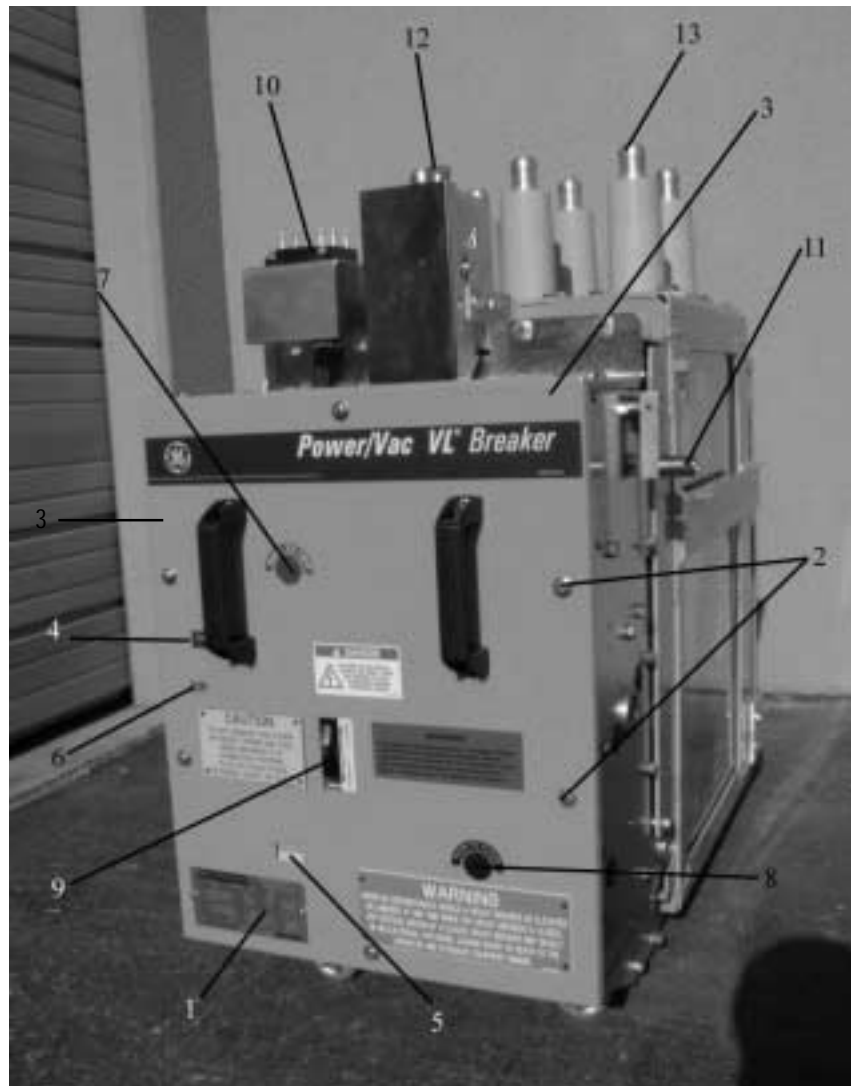
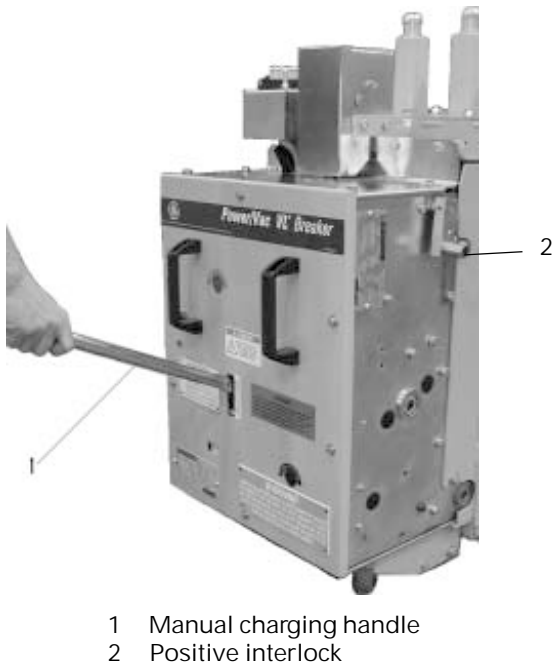

Figure 1. View of 5kV 'VL' Breaker with Front Cover
Figure 7. Manual charge handle
This interlock feature is accomplished by a roller and lever located on the interlock shaft, on the right side of the breaker. (Figures 1, 4 and 6) The positive interlock lever (roller) provides a trip-free and discharged condition when racking the breaker in the connected or disconnect position. When the breaker is raised or lowered,
4. With the breaker in the lowered position, the positive interlock roller engages in the lower Vee notch, in the interlock cam plate. **The breaker should be in the opened position and the closing springs discharged** as indicated by the flag indicators. (Figure 1, items 4 and 6) Using the manual charging handle, charge the breaker. Then close the breaker and recharge. (Figure 7, Item 1). With the elevating motor switch in a neutral position engage the clutch to verify the operation of the positive interlock. The springs will discharge and the breaker will open.
Also, the closing spring may be manually charged (Figure 7) for de-energized checks and maintenance.